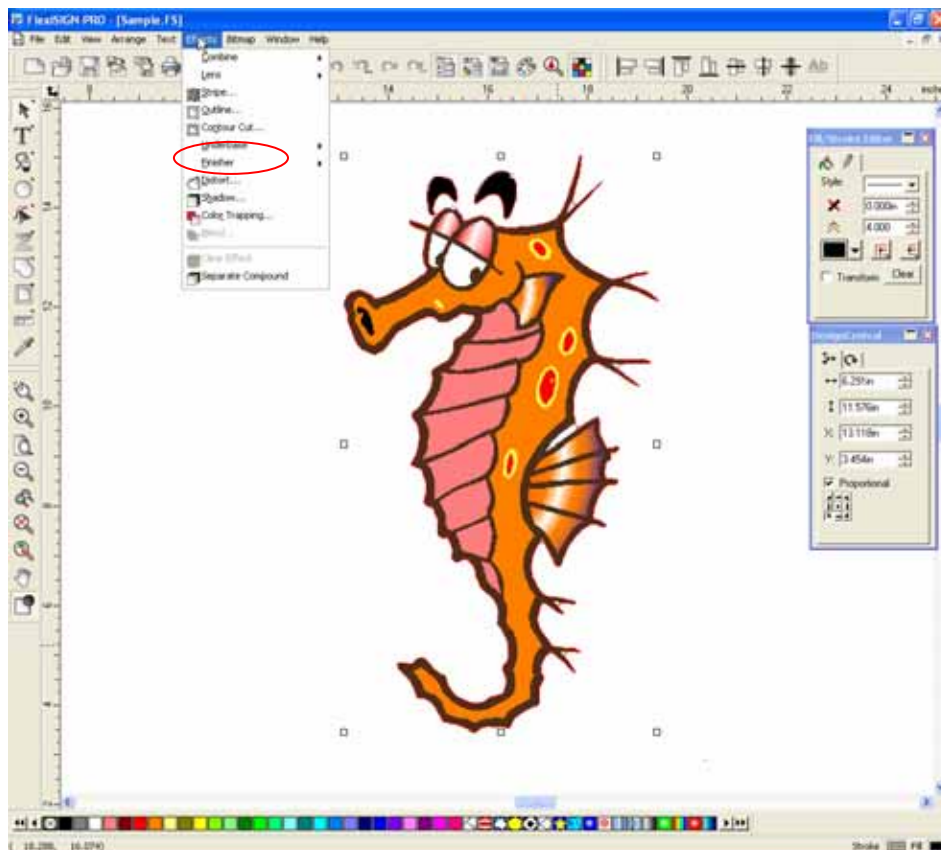

Figure 1
1. Open your image or Create your image: File > Open or File > New (Fig. 1)